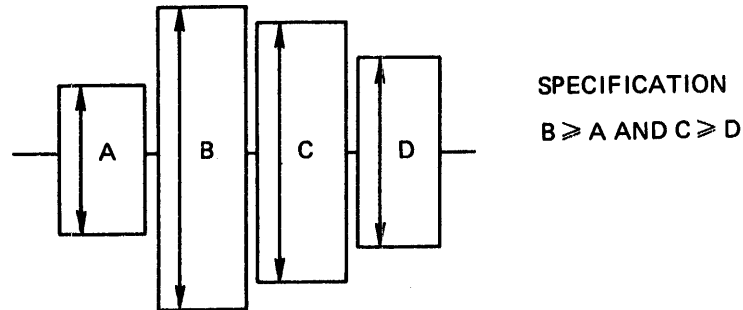

Figure 5-4 Azimuth Waveform
- c. Compare the waveform in Figure 5-4 with the waveform that is displayed on the oscilloscope.